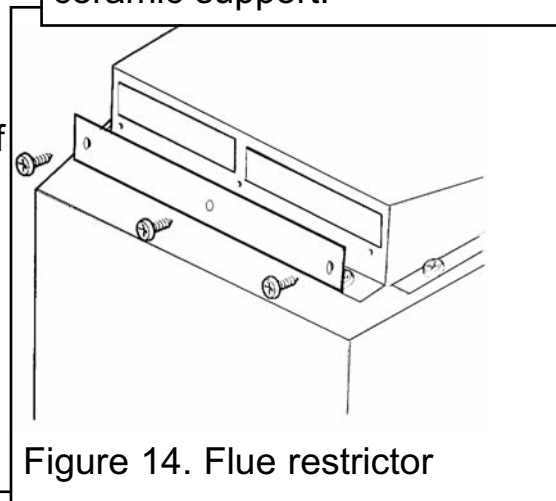

Figure 14. Flue restrictor
8. This appliance is supplied with a flue restrictor for use where the flue draught is excessive. The restrictor must NOT be fitted where a precast flue or a flue liner is used. For all other installations the restrictor should be fitted. There may however, be certain exceptional circumstances where fitting the restrictor causes the fire to fail the spillage test. In such cases the restrictor will have to be removed. After removal conduct the spillage check again. The restrictor is packed loose with the appliance and is fixed with three screws (See figure 14).